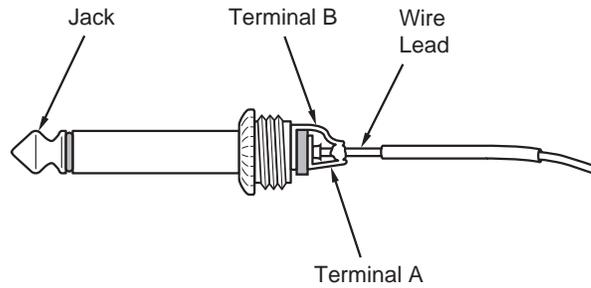

Figure 5-2: Temperature Receptacle Test Plug
18. Connect the bare wire end of the temperature leakage cable to any of the ECG test terminals on the Dynatech. Plug the other end of the leakage cable into the TEMP input of the Scholar III patient monitor. Accept a reading of less than 20 μ A. (See "Figure 5-2: Temperature Receptacle Test Plug" to fabricate).